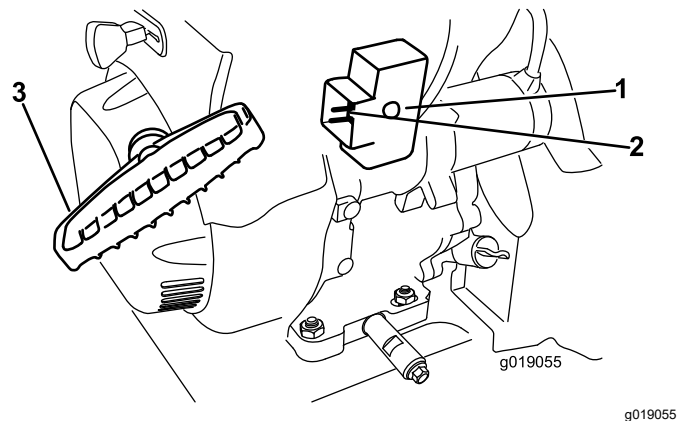

Figure 20
7. Start the machine by pulling the recoil starter or pressing the electric-starter button (Figure 20).